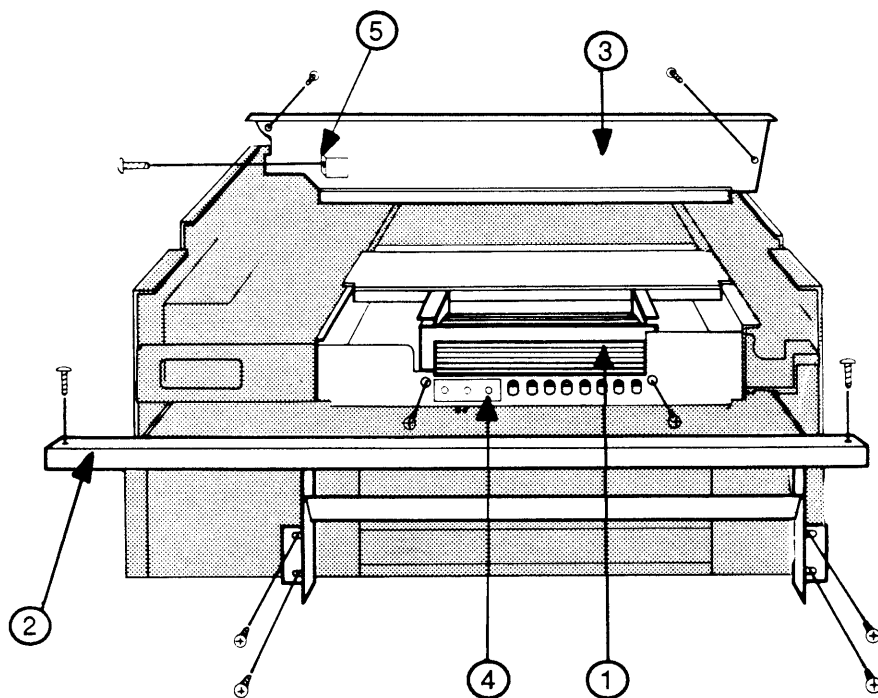

FIGURE 2-12
The fan is located along the left side of the upper main body (see Figure 2-12).
3. Remove the left side-frame (see Figure 2-12, #2) by removing its six silver screws.
4. To remove the fan cover (the metal plate above the fan, see Figure 2-12, #3), remove the three screws and lift the fan cover out of the chassis.
4. Put the fan cover (see Figure 2-12, #3) into place (try different positions until you are sure it fits correctly: the tab for the side screw (Figure 2-12, #5) fits outside the chassis frame) and install the three screws.